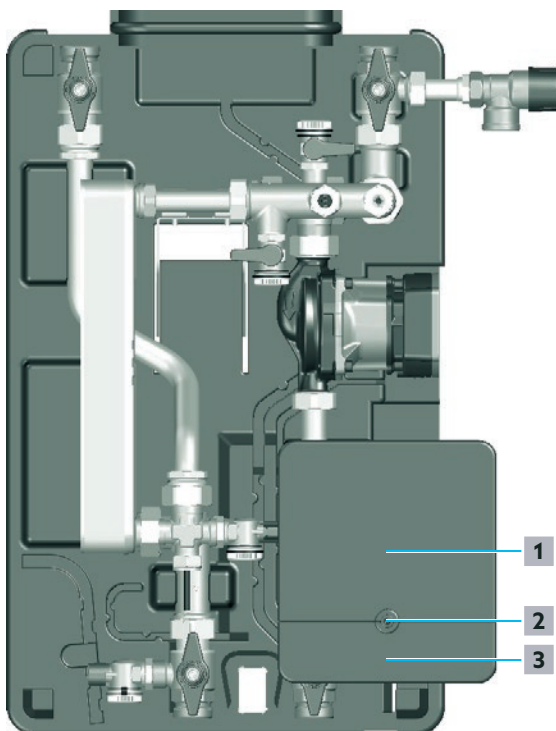

Fig. 24: Opening of the controller
- 3 Loosen the screw (position 2 in Fig. 24 on page 31) and put it aside.
- 4 Slide the connection panel cover (position 1 in Fig. 24 on page 31) upwards until it audibly clicks into place.
- 5 Fold down the supply line cover (position 3 in Fig. 24 on page 31).